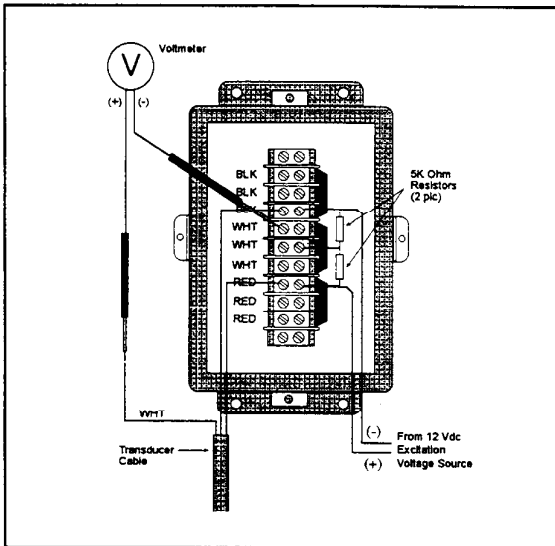
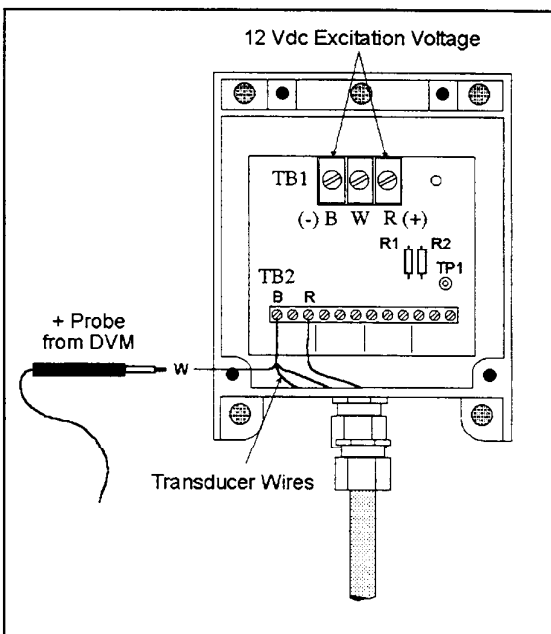

Figure 2-13. Load Disc II Wiring and Voltmeter Connection to a Stainless Steel Junction Box.
Figure 2-14. Load Disc II Wiring and Voltmeter Connection to a Plastic Junction Box.
There are two types of junction boxes that can be used with Load Disc II transducers: a stainless steel junction box with a terminal strip inside (Figure 2-13) and a Noryl plastic junction box with a PCB inside (Figure 2-14). The
If you have a stainless steel junction box, you will need to connect two 5K ohm resistors to the terminal strip to form a bridge completion circuit as shown in Figure 2-13.
1. **For Stainless Steel Junction Boxes**, connect the red wire and black wire of the Load Disc II transducer cable to the terminals shown in Figure 2-13. Leave the white wire loose.
**For Plastic Junction Boxes**, connect the red wire of the transducer to the R (red) terminal and the black wire to the B (black) terminal on terminal block TB2 (Figure 2-14). Leave the white wire loose.
2. **For Stainless Steel Junction Boxes**, connect the positive (+) lead of a 12 Vdc excitation voltage source to the terminal strip at the red transducer wire and the negative (-) voltage source lead at the black transducer wire (Figure 2-13).
4. **For Stainless Steel Junction Boxes**, connect the signal probe (+) of the voltmeter to the white transducer wire and the common probe (-) to the terminal where the two resistor leads connect to the terminal strip (Figure 2-13). Observe the transducer's millivolt output.
**For Plastic Junction Boxes**, connect the signal probe (+) of the voltmeter to the white transducer wire and the common probe (-) to TP1 as shown in Figure 2-14. Observe the transducer's millivolt output.